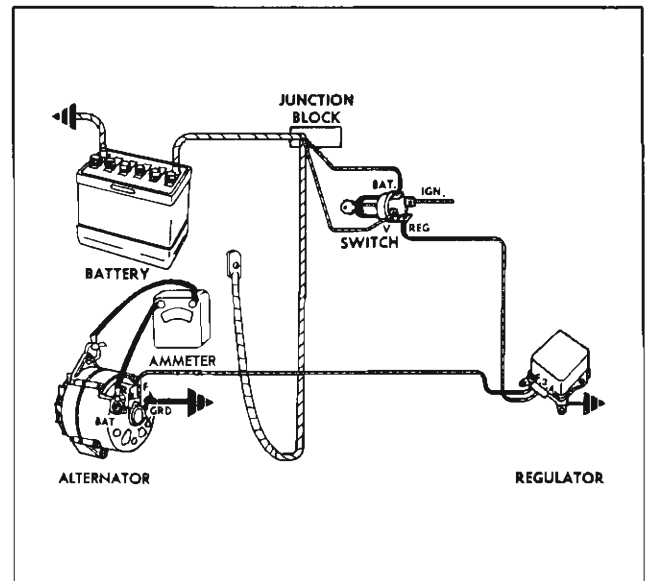

Fig. 11-26 Ammeter Measuring Output
5. Move ammeter lead from positive battery terminal to alternator frame (Fig 11-26). Start engine and increase to 2500 rpm.